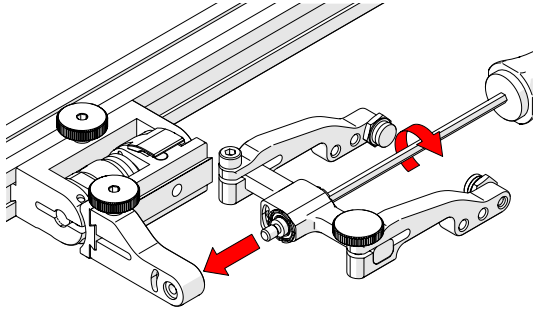

Fig. 172 - Install yoke to swing arm
6. Using the 3 mm hex driver, screw the yoke pivot screw into the opposite side of the probe holder swing arm (*Fig. 172*). Ensure the yoke is level to avoid issues with the plunger/set screw.